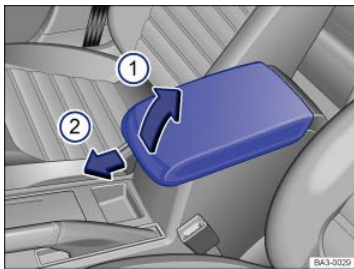

Fig. 50 Front center armrest.
To *open*, lift up the latch and the armrest as far as it will go in the direction of the arrow ⇒ Fig. 50①.
To *move* the center armrest forwards and backwards, pull it forward ⇒ Fig. 50②, or slide it backward until it clicks into place.